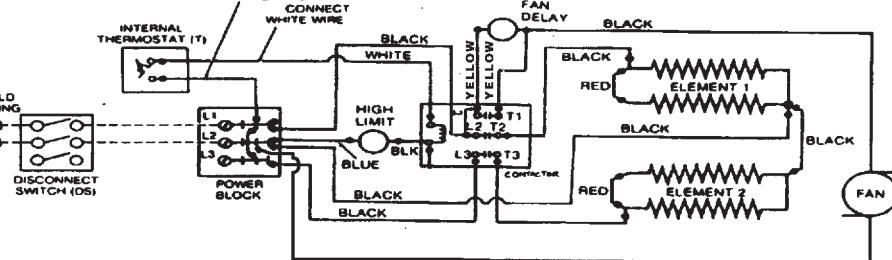

Figure 3
(and T3 for three phase) from the disconnect switch to the power block on the heater. (See Wiring Diagram, Figure 3).
- Remove wiring cover from front of heater and wire T1 and T2 (and T3 for three phase) from the disconnect switch to the power block on the heater. See Wiring Diagram, Figure 3.
- Connect heater white wires to "L2" and "cycle" terminals on the thermostat as shown in the wiring diagram, Figure 3.